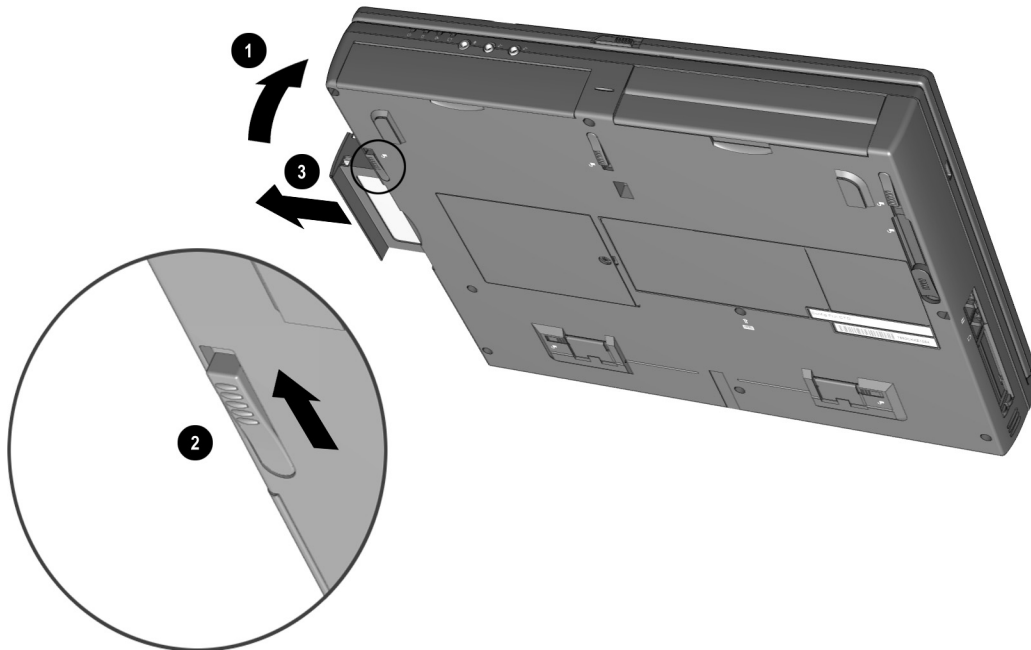

Figure 5-13. Removing a Hard Drive from the Hard Drive Bay
2. Tilt the computer at an angle **1** so the bottom of the computer is accessible (Figure 5-13).